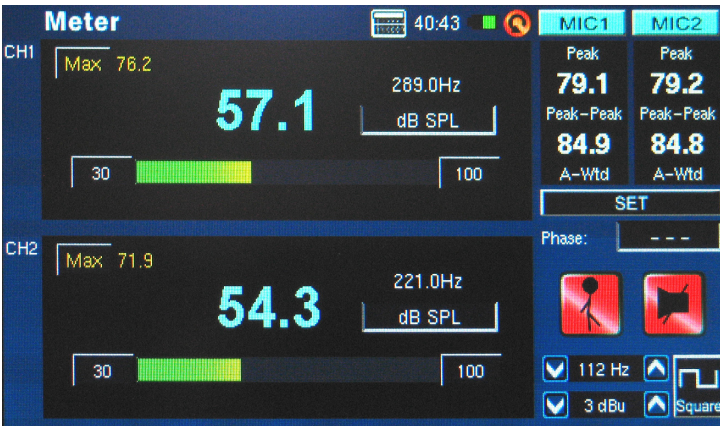

figure 47
4. Return to the meter by clicking "OK" (figure 47).